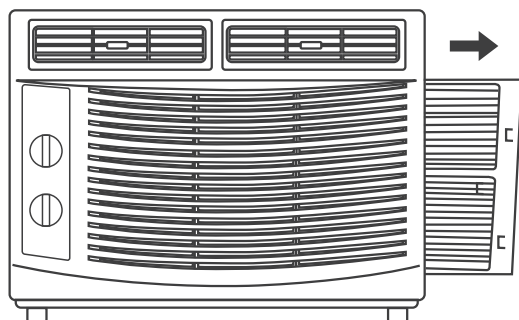

Fig.15
- Take off the power plug, then remove the filter by sliding it out from the front right side of the air conditioner. (See Fig .15)